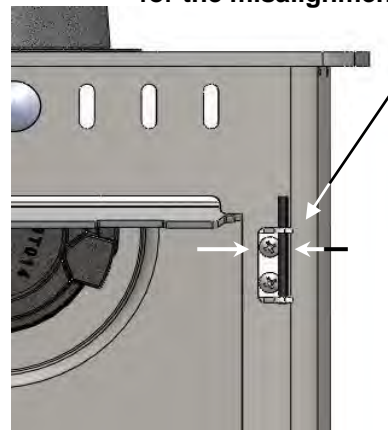

Fig. 6. Adjusting The Door Hinges
- Gently tap the hinge pins in the direction to compensate for the misalignment. (Fig. 6)